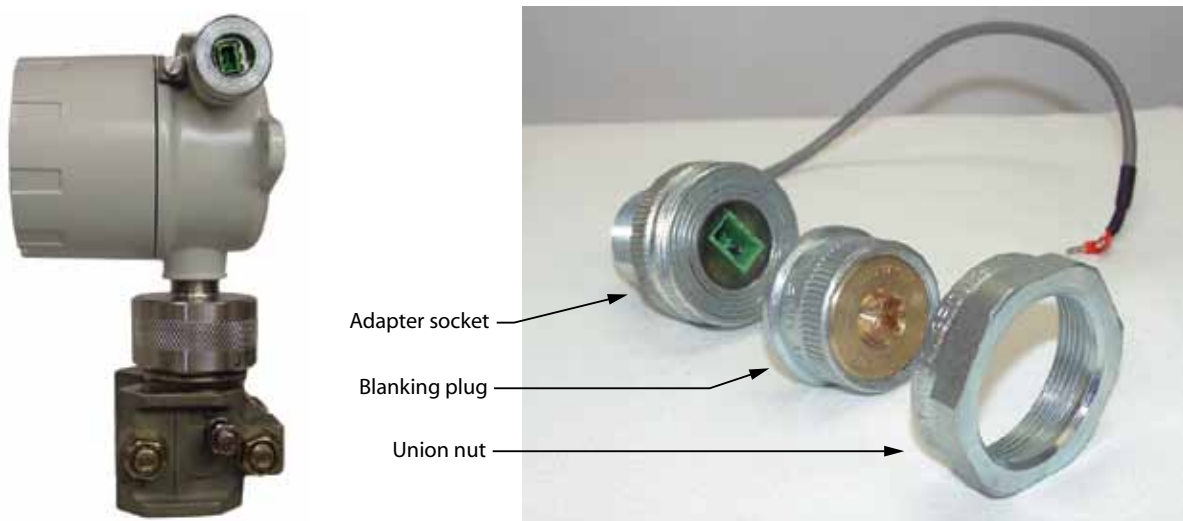

Figure A.1—External communications adapter
The external communications adapter (Figure A.1) provides an RS-485 connection for connecting a laptop or PC to the instrument without removing the instrument cover. When the adapter is ordered with a Scanner 2000, it is factory installed. It may be relocated to either conduit opening in the instrument housing.
1. Unscrew the union nut to expose the connector socket shown in Figure A.1, page A-1. A blanking plug will be removed with the union nut. Store the union nut and blanking plug in a safe place. (They will need to be reinstalled when the adapter is not in use.)